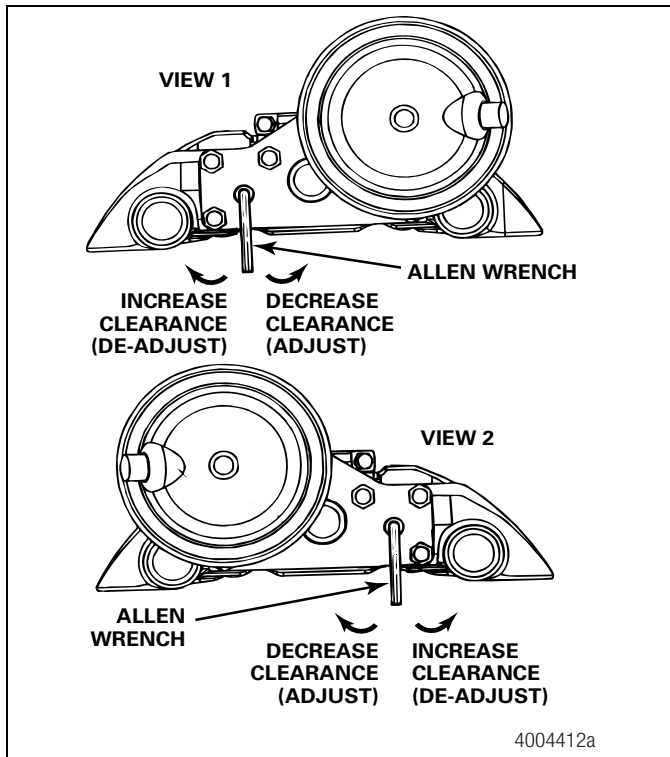

Figure 3
2. Use a 6 mm Allen wrench to de-adjust the brake. Stop turning the Allen wrench when you feel resistance. When you feel resistance, adjust the brake 1/4 turn to ensure that automatic adjustment will occur. Figure 3. Note the location of the air chamber with respect to the adjustment direction.